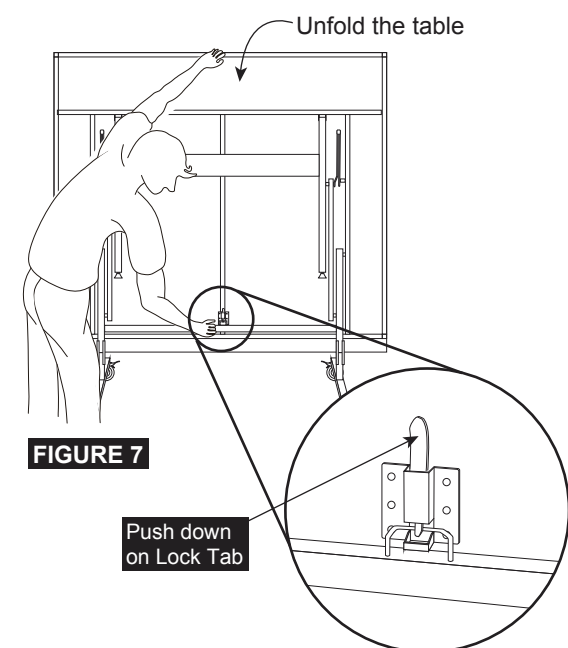

FIGURE 7
1. Push down on Lock Tab to release lock as shown in **FIGURE 7**.